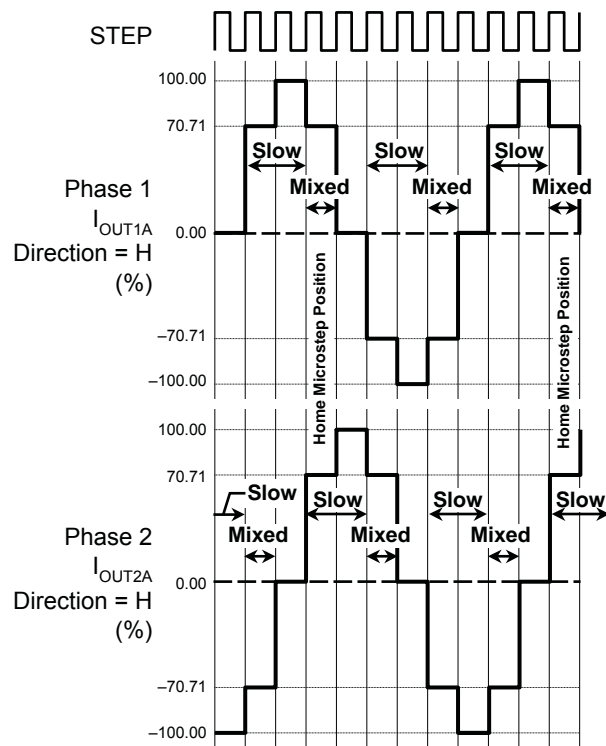

Figure 3. Decay Modes for Half-Step Increments
**Mixed Decay Operation.** The bridge can operate in Mixed Decay Mode, depending on the step sequence, as shown in figures 3 thru 5. As the trip point is reached, the A3982 initially goes into a fast decay mode for  $31.25\%$  of the off-time,  $t_{\text{OFF}}$ . After that, it switches to Slow Decay Mode for the remainder of  $t_{\text{OFF}}$ .